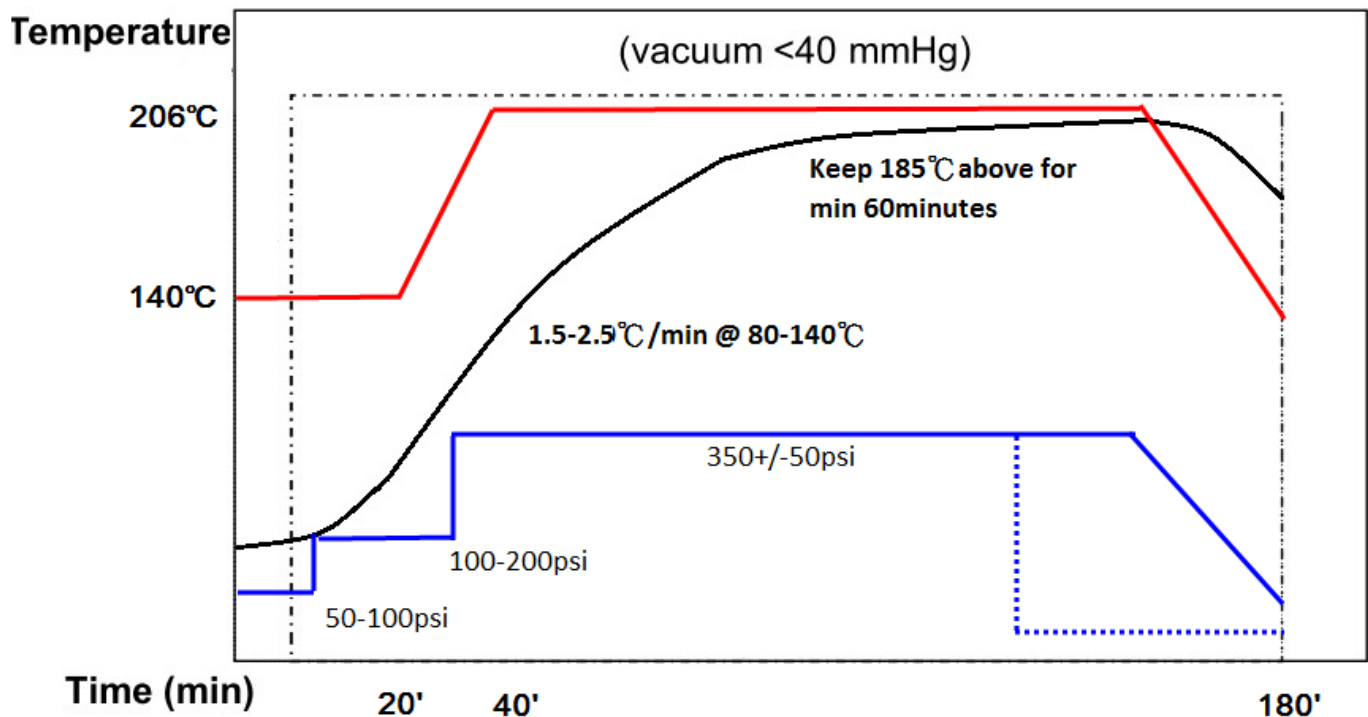

Figure 1. Recommended press cycle
- (1) Stacks must be prepared in a temperature and humidity controlled lay-up room to avoid moisture absorption.
- (2) It is recommended to apply vacuum for 10-30 minutes before temperature ramping up. Vacuum hydraulic machine is recommended for lamination process. The heating raise by thermal couple is $1.5\sim 2.5^{\circ}\text{C}/\text{min}$ from 80°C to 140°C and keep the temperature at 185°C above for more than 60 minutes is necessary. Full pressure is 300-400 psi. Cooling rate below $3^{\circ}\text{C}/\text{min}$ is recommended as shown in **Figure 1**.